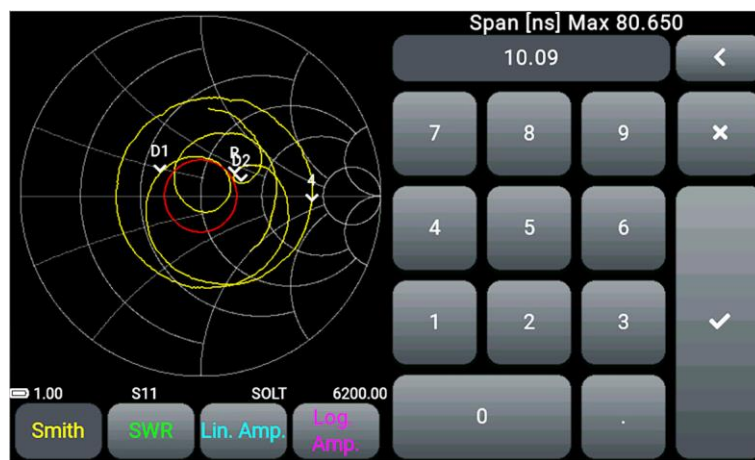

Figure 9.8 - Entering values for the horizontal scale parameters of the DTF plot
9.3.3. Enter the speed, time, or distance factor that determines the length of the plot's horizontal scale (figure 9.8) and click ✓ (**Data entry**). To delete incorrect or previously entered values, click < (**Delete**). To exit the menu without entering values press × (**Cancel**).